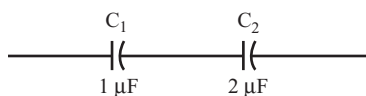

FIGURE 1.19
**42** Capacitors can be placed in series, as shown in Figure 1.19.
- B. In Figure 1.19, what is the total capacitance? \_\_\_\_\_